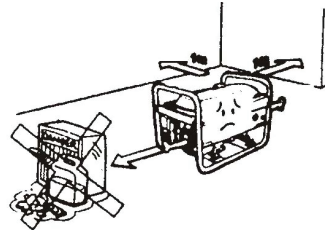

Figure 4
b. Keep inflammables at least 1 meter away from the unit (Figure 4)